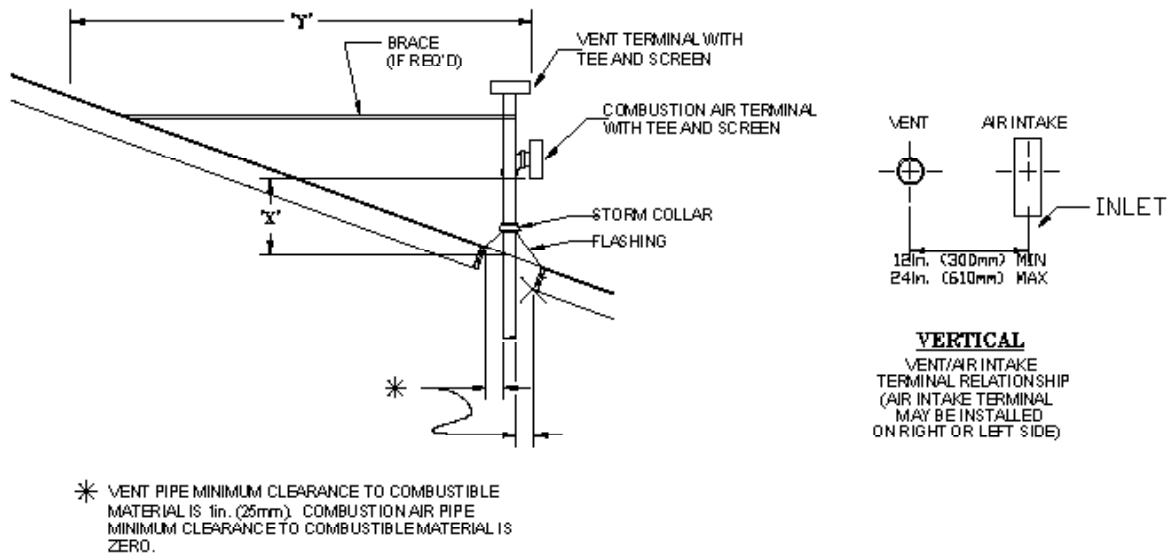

Figure 8: Vertical Terminations with Sloped Roof
- ii. Vertical Roof Venting: Use coupling on vent and two 90° elbows turned downwards for combustion air as shown in Figures 8 and 9.